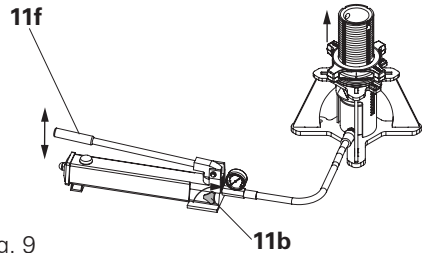
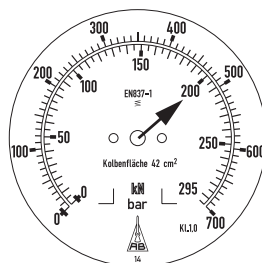

Fig. 9
Fig. 12
1. Close the pump valve (11b) by turning it clockwise. (Fig. 9)
2. Operate pump lever (11f) until the piston (8a) of the cylinder rests centrally and flush on the red pressure piece (3).
3. Continue to build up pressure until the pre-determined load specification has been reached: see project-specific static and preloading plan. (Fig. 12)